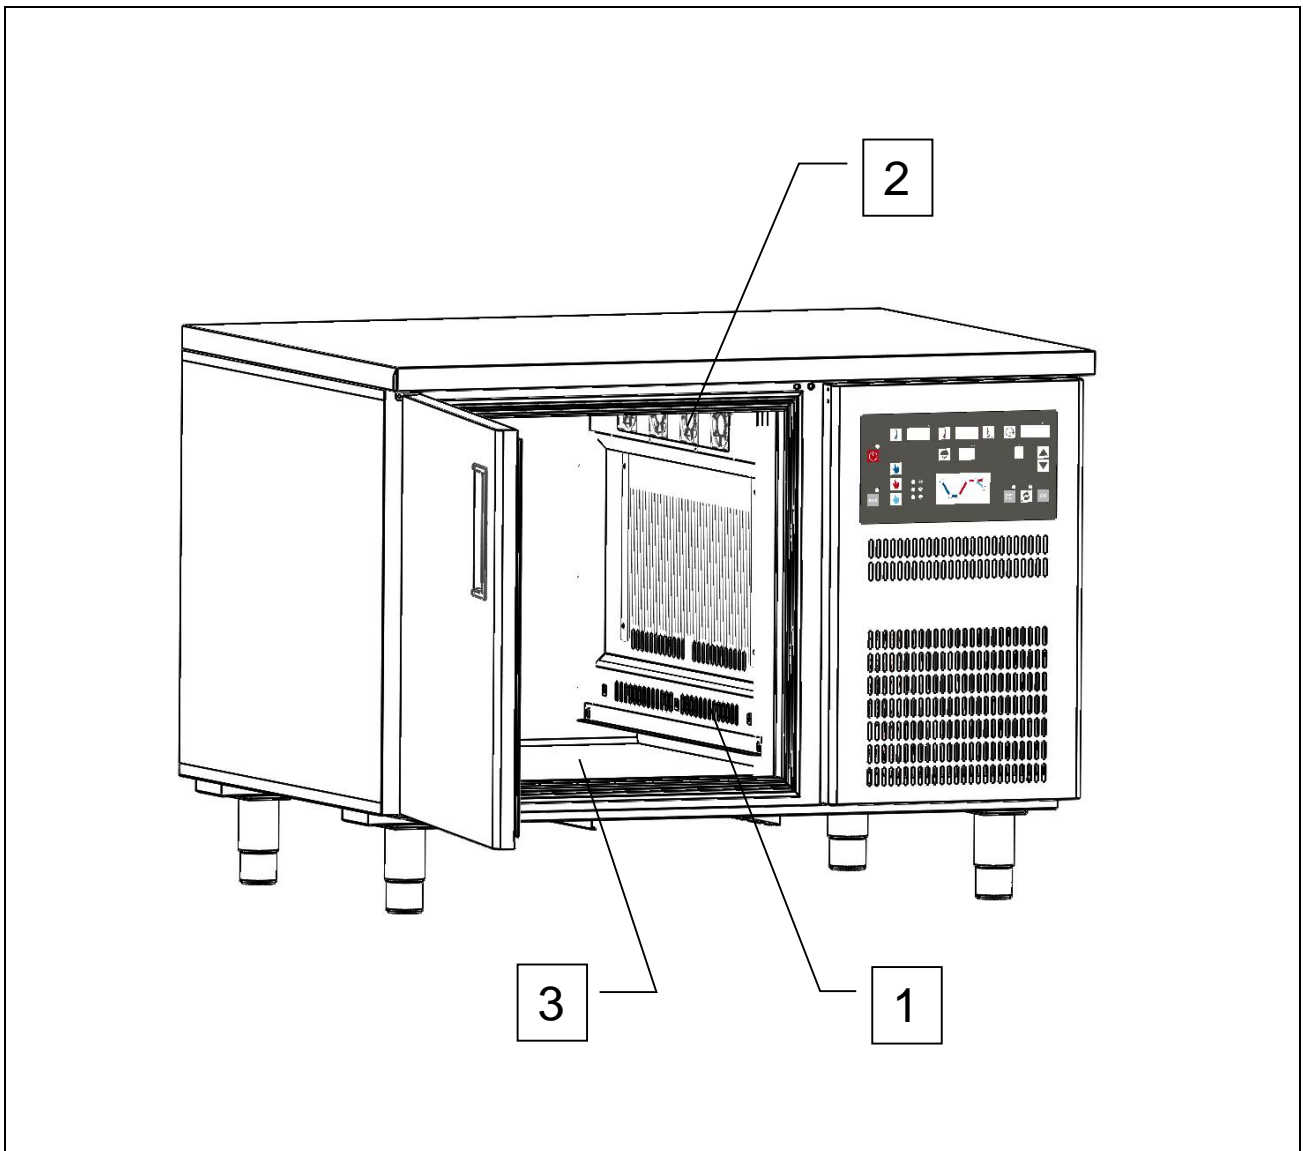

Fig. 4
- with obstructed air ducts (ref. 1 fig. 4);
- with any food products (food or drinks) placed close to the internal ventilation grilles (ref. 1, fig. 4) or directly on the cabinet floor (ref. 2, fig. 4).